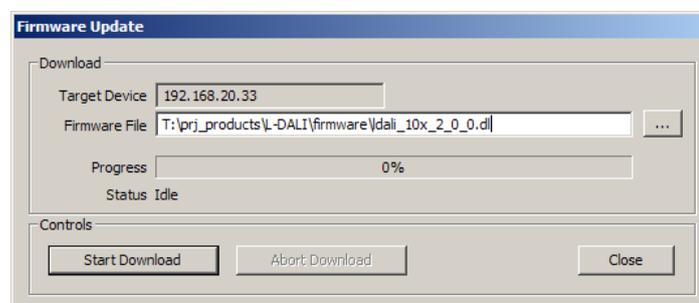

Figure 165: Firmware Update dialog of the LDALI Configurator.
6. This opens the Firmware Update dialog as shown in Figure 165. Click on the button "...” and select the firmware image ("ldali_10x_2_0_0.dl").